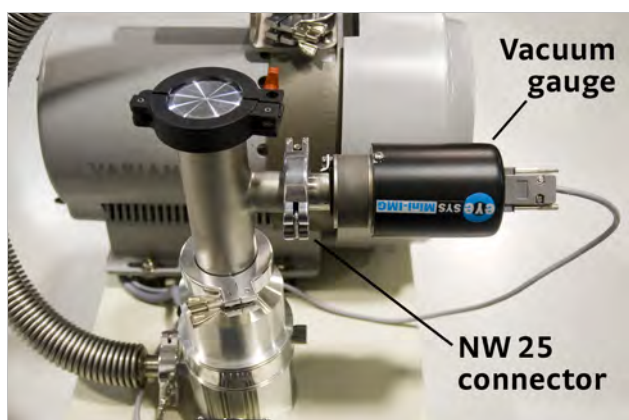

FIGURE 3-14 Left: Vacuum gauge; Right: Back panel of the gauge controller
1. If the vacuum gauge (FIGURE 3-14) is not already installed on top of the turbo vacuum pump, remove the protective caps. Then use the provided clamp and center ring to attach the gauge.
2. Remove the blank off plate from the connector on top the vacuum gauge. Attach the supplied cable to this connector (see FIGURE 3-14). If not already done, attach the other end of the cable to the connector on the back of the gauge controller (FIGURE 3-14).